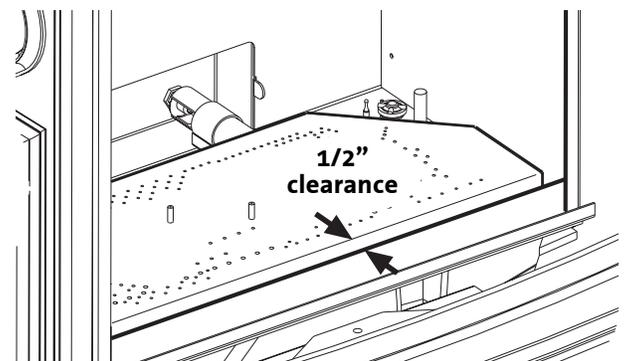

Figure 25. Correct Burner Position.
10. Replace the Burner Plate. Engage the burner tube with the Air Shutter assembly as in fig. 25. Be sure the burner is securely engaged with the two support brackets at the front of the firebox and push the plate back toward the rear of the firebox. When correctly positioned, there will be $\frac{1}{2}$ " (13 mm) clearance between the burner plate and the front of the firebox. See fig. 25.